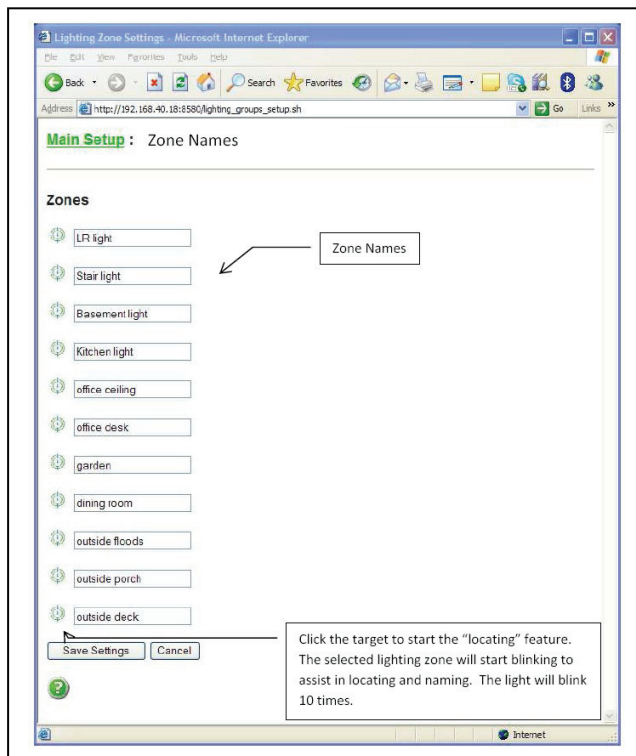

Figure 5
- C. If you return to "Lighting" and select "Zones" after an RF Scan, you will see a list of all the zones (load devices) that the Event Controller found during the RF Scan (see **Figure 5**).
- D. Each Zone is initially given a four digit number. By clicking on the target icon next to the number, that load flashes ten times to allow you to locate it and decide what to name it. Simply overwrite the number of that load with an appropriate name. When you are done locating and re-naming all the loads in the system, click on “Save Settings” as shown on **Figure 5**.